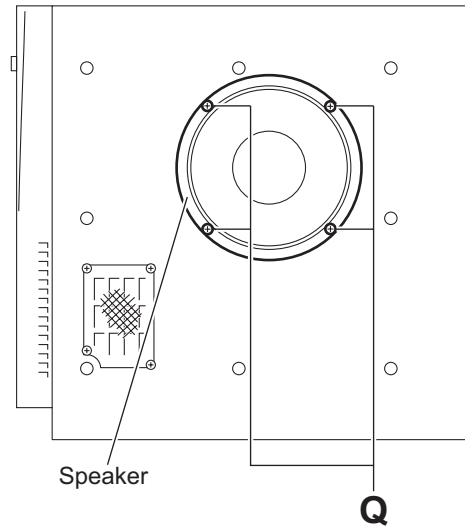

Fig.18
3.4.12 Removing the speaker (See Figs.18 and 19)
- (1) From right side of the speaker main body, remove the four screws **Q** attaching the speaker. (See Fig.18)